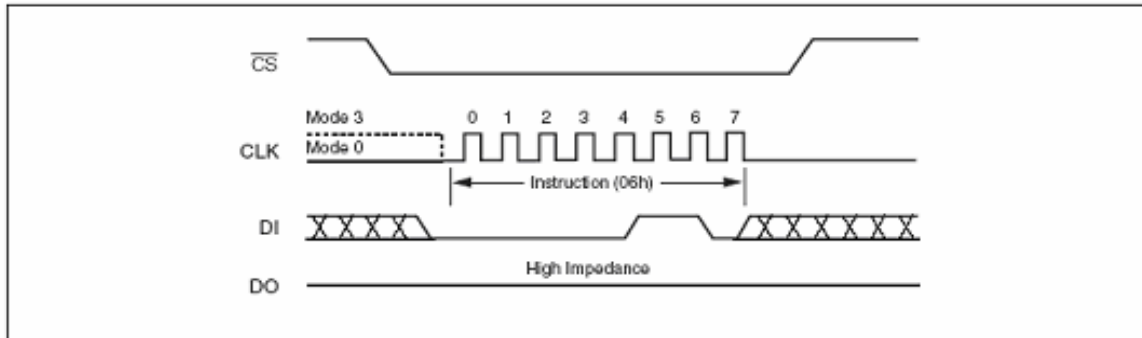

Figure 5. Write Enable Instruction Sequence Diagram
The Write Enable (WREN) instruction (Figure 5) sets the Write Enable Latch (WEL) bit. The Write Enable Latch (WEL) bit must be set prior to every Page Program (PP), Sector Erase (SE), Bulk Erase (BE) and Write Status Register (WRSR) instruction.